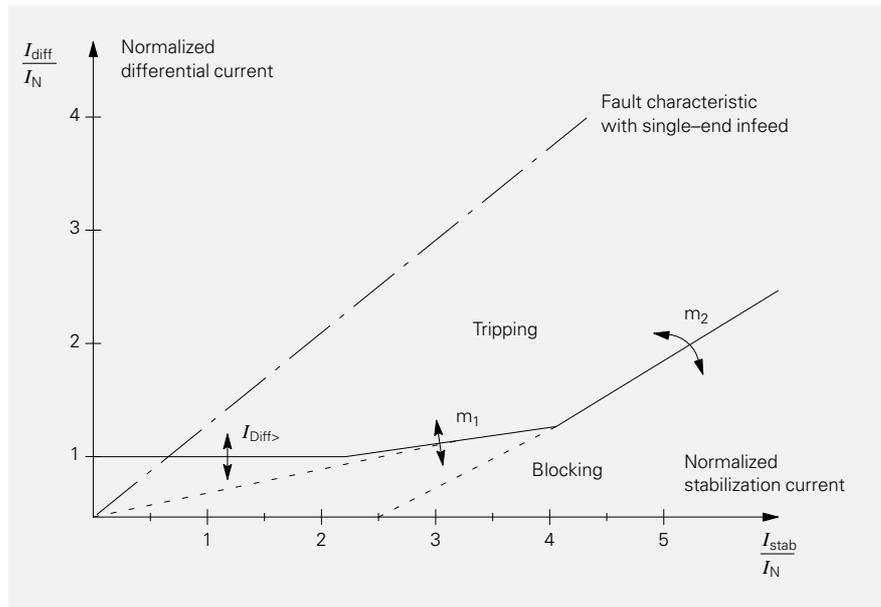

Fig. 3
- Response characteristic for three-phase, balanced short-circuit current as shown in Fig. 3. The response value  $I_{diff>}$  and the gradient of the characteristic branches are parameterizable.